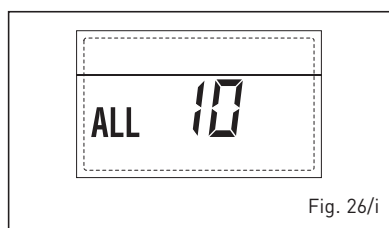

Fig. 26/i
– **INTERVENTO Sonda FUMI “ALL 13” (fig. 26/l)**